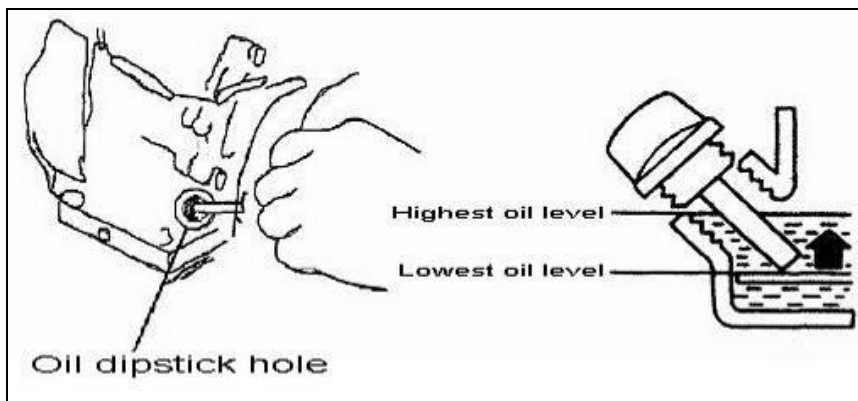

Figure 12
3. Remove the oil filler cap/dipstick. If the level is low, slowly add oil until oil level registers between highest oil level (H) and lowest oil level (L). Refer to the Engine Maintenance section for correct oil viscosity and engine oil capacity. See figure 12